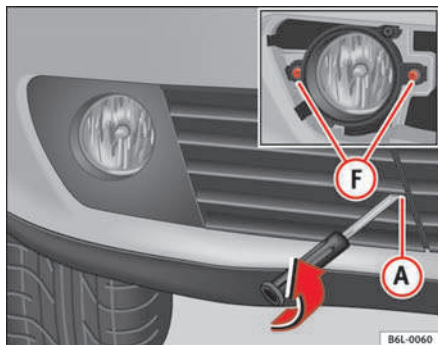

Fig. 150 Fog lights
- Undo the two fastening screws **F** ⇒ fig. 150 and when released unplug the connector
- Remove the grille, taking out the screw **A** ⇒ fig. 150, carefully pull the grille on the side of the screw and release the cover.